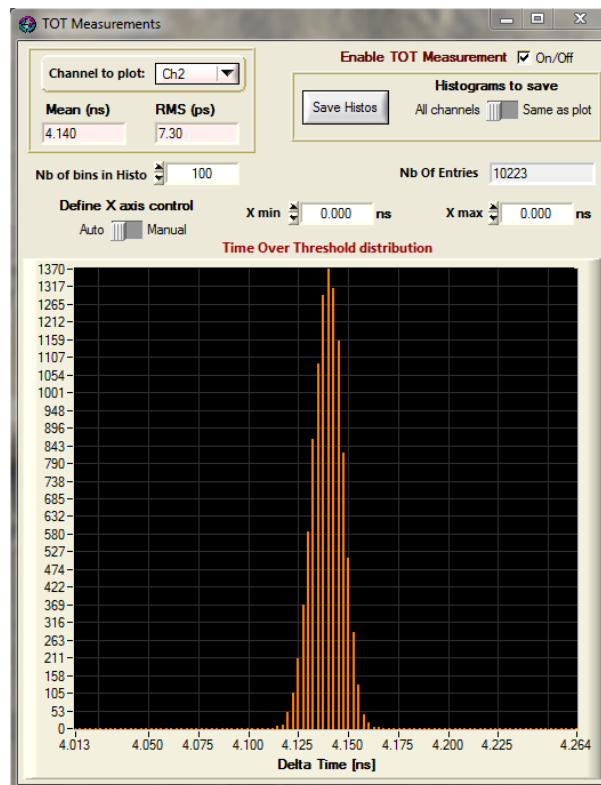

Figure 5.20: *TOT Measurements window*
- **TOT Measurements:** by clicking on this item, the user opens an eponym window (see **Figure 5.20**). In order to perform the measurement, the On/Off checkbox has to be checked.